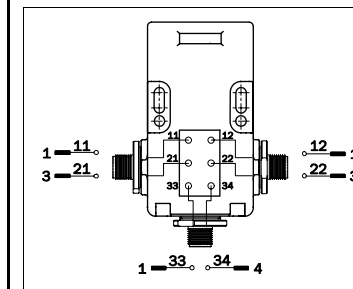

Fig. 7: Contact assignments i17-SA214
- Contact assignments see Fig. 7.